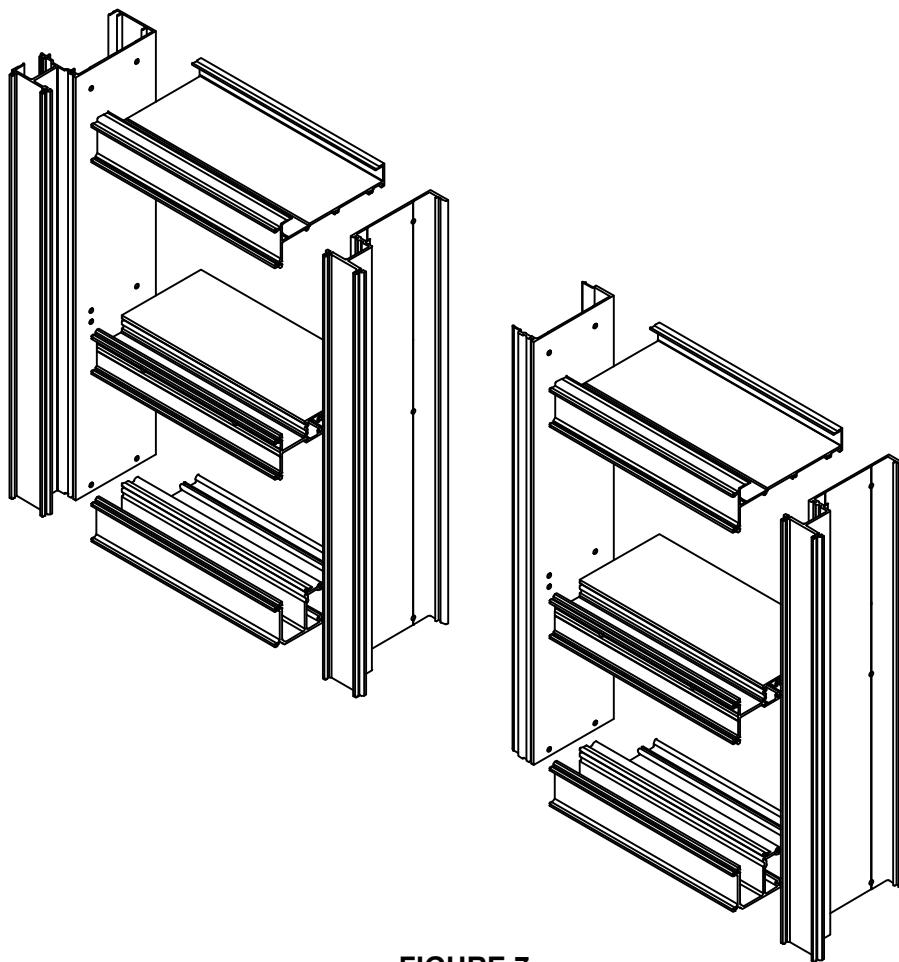

FIGURE 7
- 2.1 Starting with the left jamb of the opening, lay out verticals and horizontals for assembly of the bay. SEE FIGURE 7.